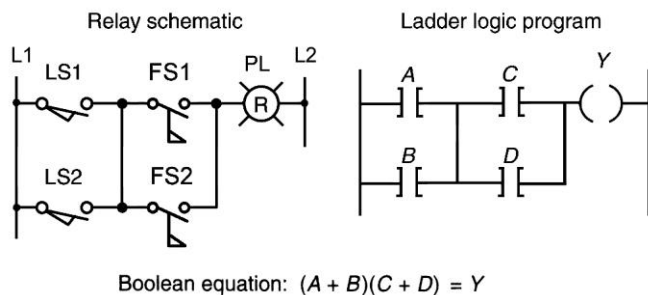

Figure 4-24 Program for assignment 4.
4) Program the relay schematic of Figure 4-24 using your PLC, and simulate its operation.